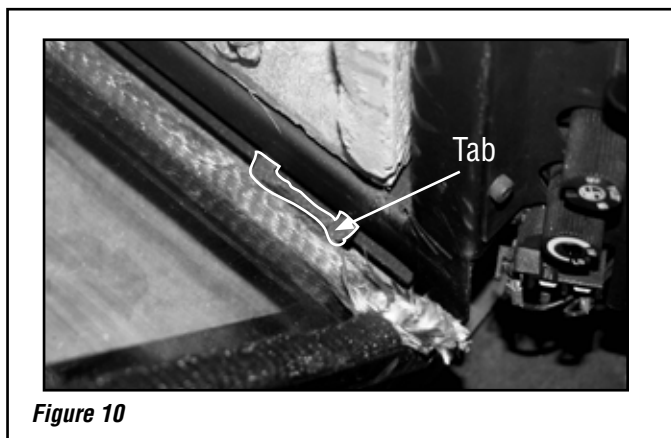

Figure 10
1. Locate three tabs on the bottom of the door. These tabs will go into the tab slots along the bottom of insert. See **Figure 10**.